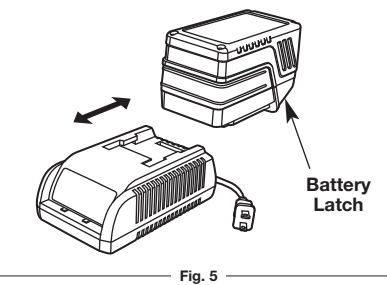

Fig. 5
3. Insert the battery into the charger (Fig. 5).
5. The battery may be removed or stored in the charger once it is fully charged; however, it is recommended to disconnect the plug from the wall outlet/receptacle. To remove the battery, hold down the battery latch and slide the battery off the charger (Fig. 5).